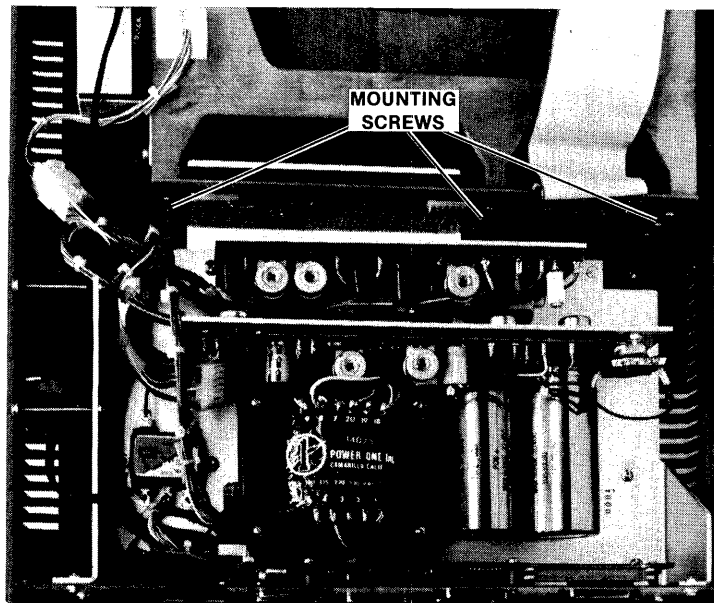

Fig. 4-22 Model 210 Mother Board Removal
8. Remove the model 210 mother board as shown in Figure 4-22.